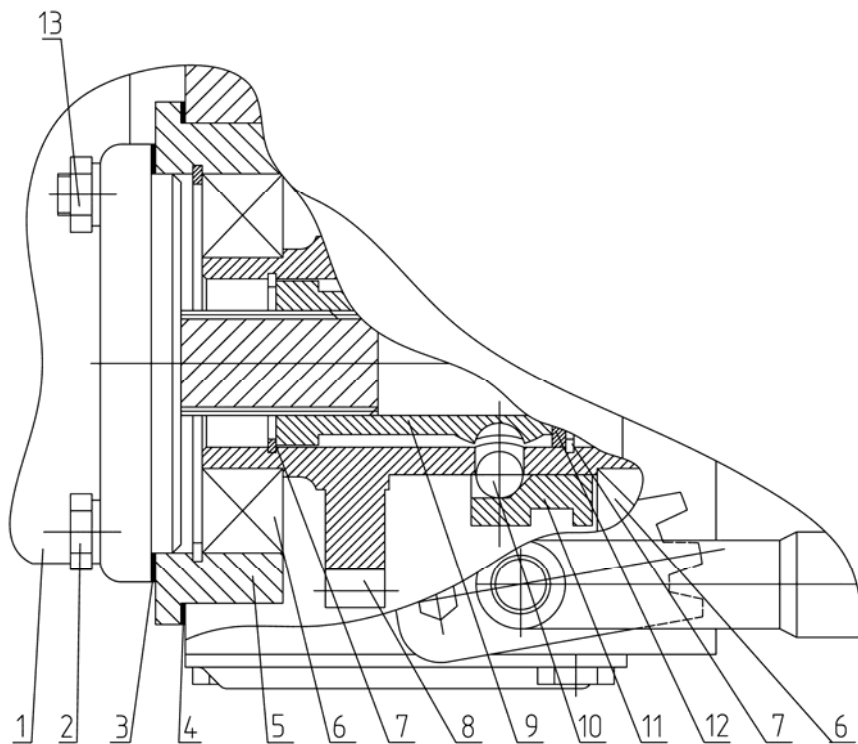
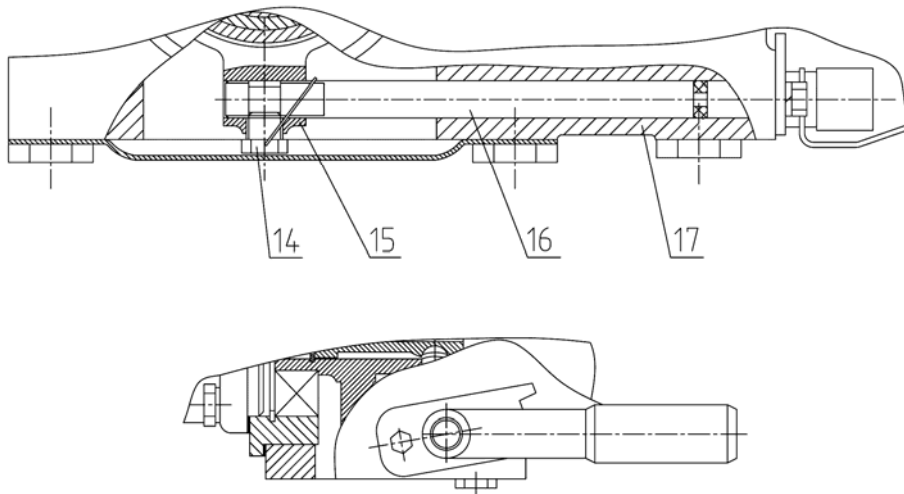
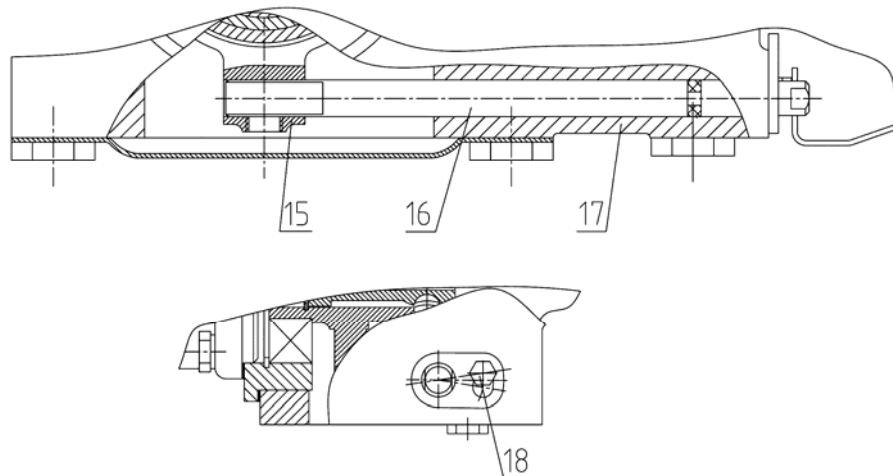

Figure 9.5
Figure 9.6
Figure 9.7
- b) unscrew bolts 2 (Figure 9.5) and nuts 13 for fastening pump 1 to oil tank 17 (Figure 9.6);
- c) dismount pump 1 (Figure 9.5) and spacer 3;
- d) unpin bolt 14 (Figure 9.6) that fastens yoke 15 on shaft 16 and unscrew it;
- e) while supporting yoke (15), pull out shaft (16) with handle and yoke 15;
- f) screw two disassembly bolts inside flange of cup 5 (Figure 9.5) and pull out cup with spacer 4;
- j) dismount clutch (11) and pull out three balls 10;
NOTE: If drive is not equipped with handle, yoke 15 (Figure 9.6) on shaft (16) is not fixed, and shaft (16) is fastened by bolt 18 (Figure 9.7) to oil tank 17.